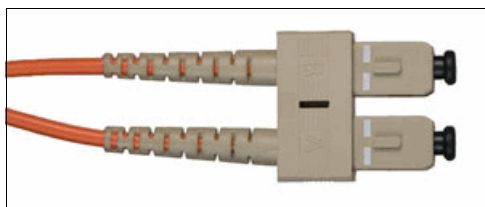

Figure 2-17 SC connector
The duplex Subscriber Connector (SC) connector (as shown in Figure 2-17) is a low-loss, push/pull fitting connector. Each of the two fibers has its own part of the connector. The connector is keyed to ensure correct polarization (transmit to receive and receive to transmit) when connected. Most 1 Gbps SAN devices, including IBM Ultrium 1 FC drives, use SC connectors.